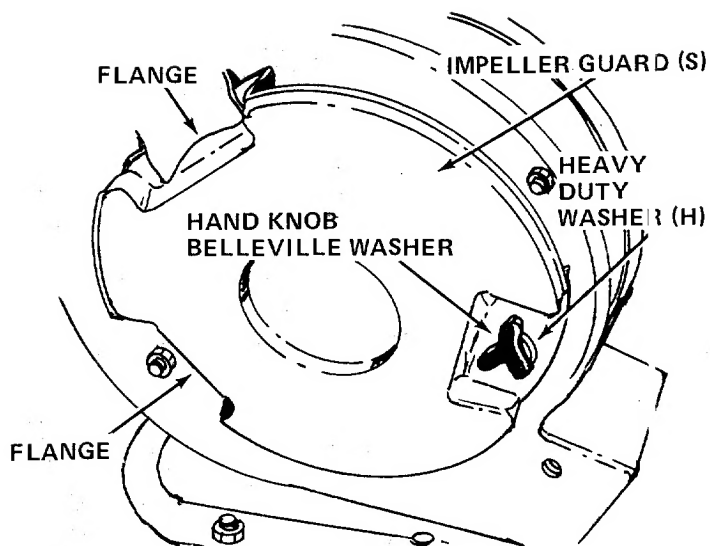

FIGURE 13
5. Lift up and out on the housing and rotate it 105° clockwise. Chute opening should be to the right hand side when viewed from the front of unit. See figure 13.
6. Place the impeller guard (S) into flanges on front of housing. Line up hole in guard with hole on housing. Secure with one hand knob, belleville washer and heavy flat washer (H). See figure 13.